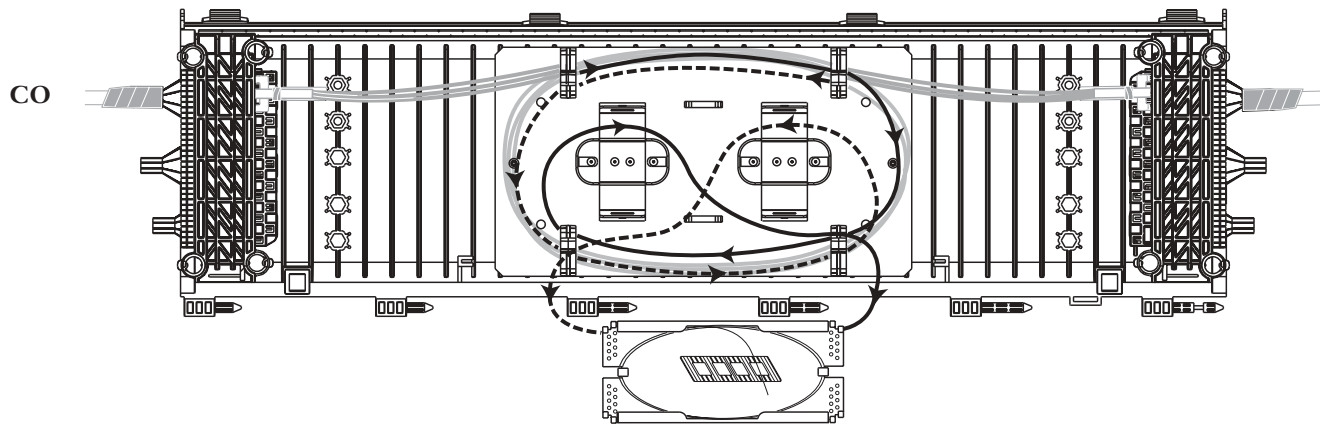

Figure 17 — Midspan Distribution Buffer Tube
- Step 2** Loop the distribution buffer tube around the radius guides and beneath the splice tray holder as shown (Figure 17).